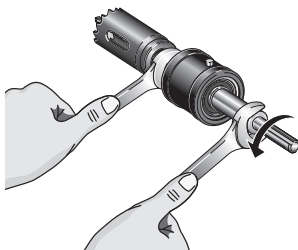

Figure 17 – Replacing the Hex Chuck Shaft
2. Loosen and remove the Hex Shaft with an $\frac{5}{8}$ " wrench (Figure 17).